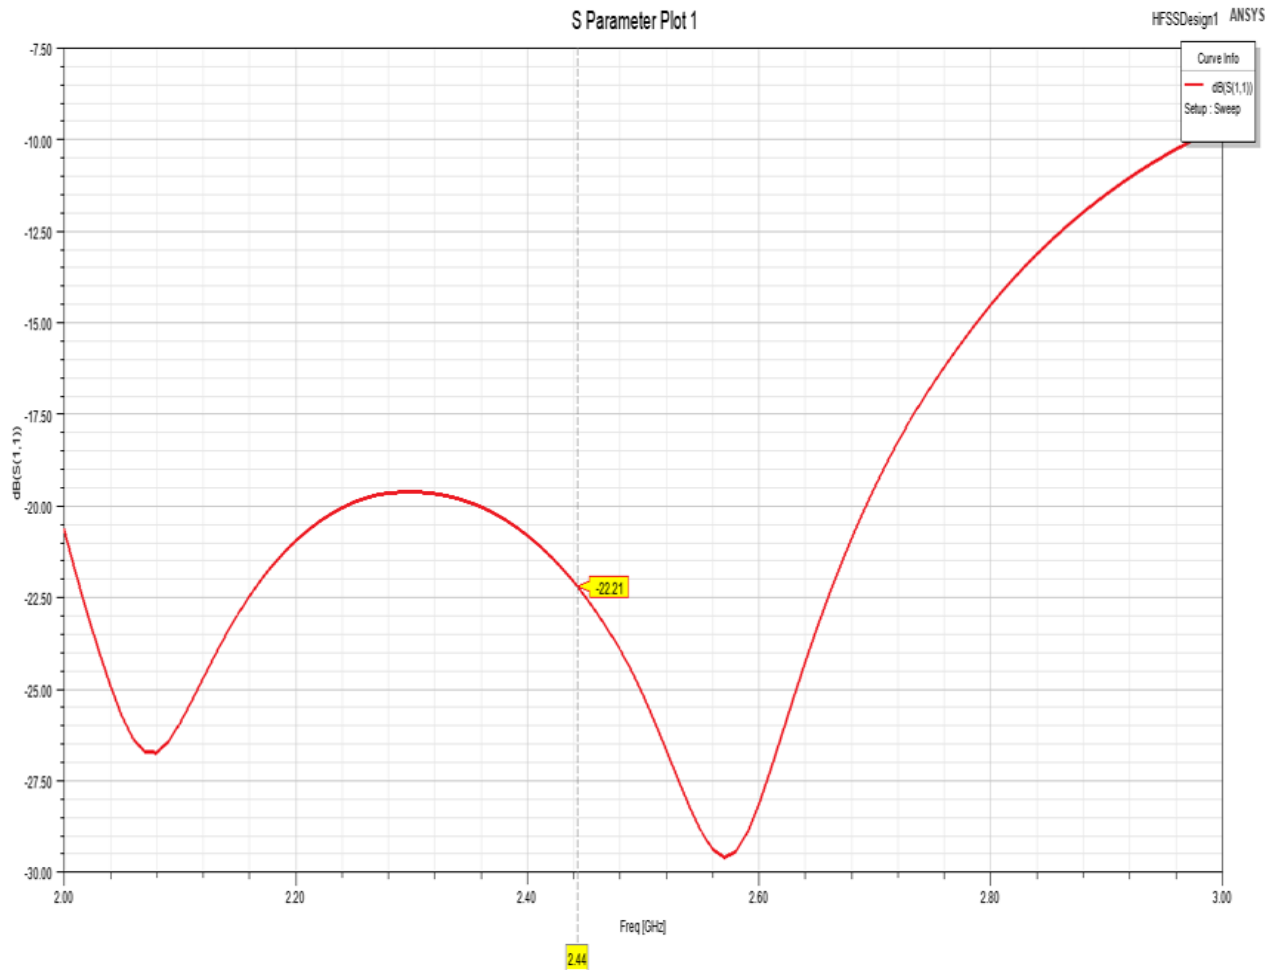

Figure 4. Return Loss Parameter Plot
- Return Loss Parameter Plot (Figure 4)